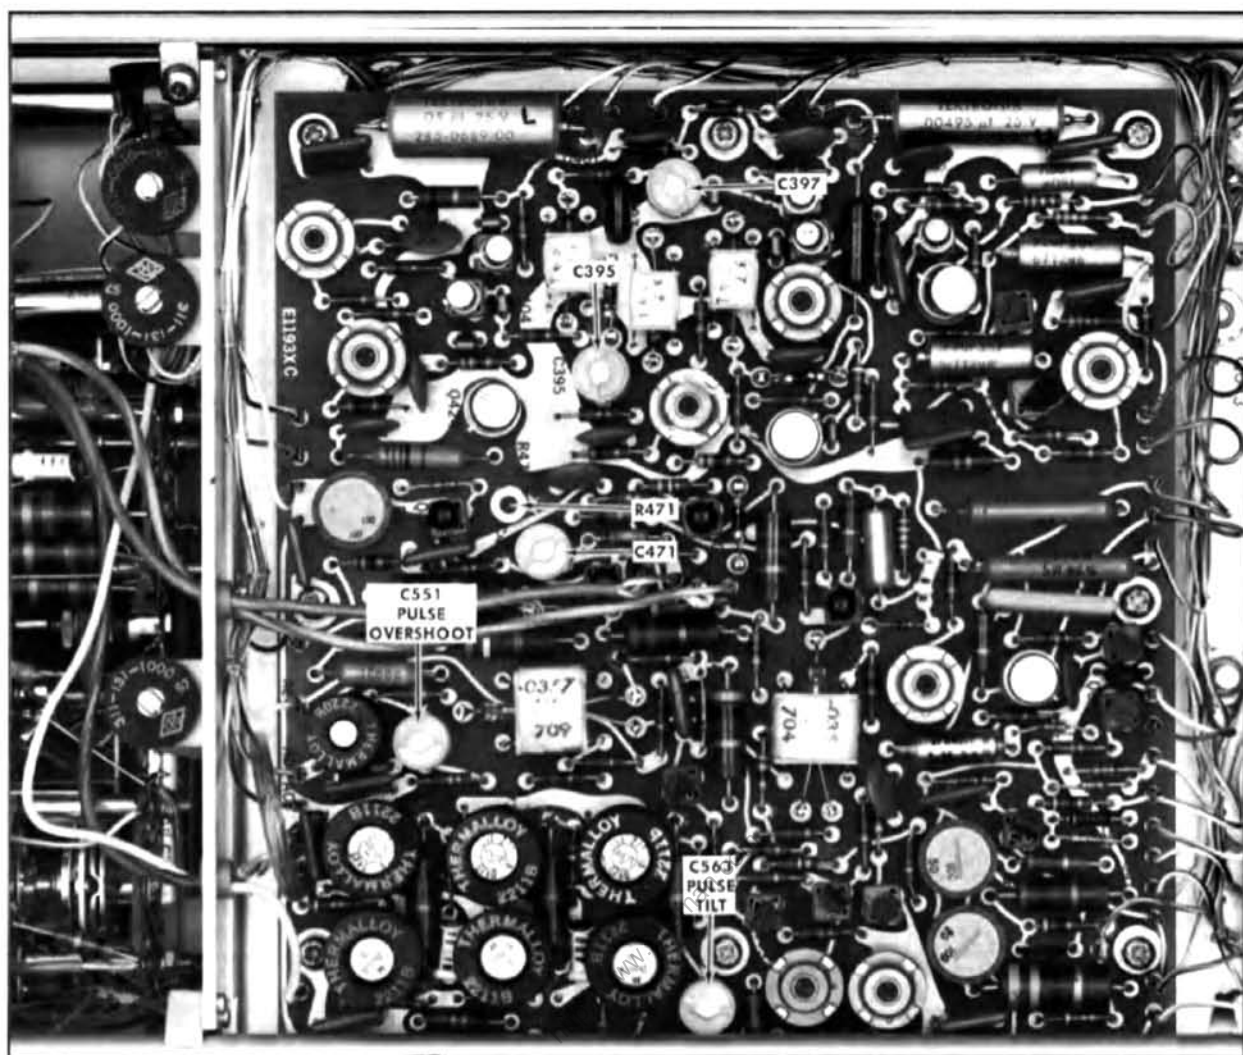

Fig. 5-16. Bottom circuit board: Location of adjustments in steps 17 through 20.
- n. ADJUST—C471 and R471 (see Fig. 5-16) for the fastest possible risetime with minimum aberrations.
- n. ADJUST—R376, 10 ns T_r CAL adjustment, (see Fig. 5-13) and C395 (see Fig. 5-16) if the risetime is not correct. Remove the adjustment tool while observing the risetime.
- cc. ADJUST—C397 (see Fig. 5-16) if the risetime is not correct.